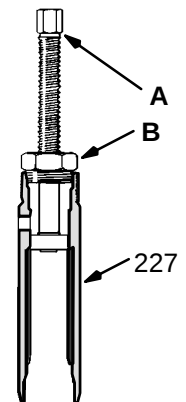

Fig 2
6. Screw the large nut (B) of the tool into the top of the cylinder (227). Screw down the rod (A) to push the sleeve out. Remove the tool. *See Fig 2.*
7. Clamp the flats of the piston rod in a vise. Loosen the retaining nut (220). Unscrew the piston valve (226). Remove the packings and glands.